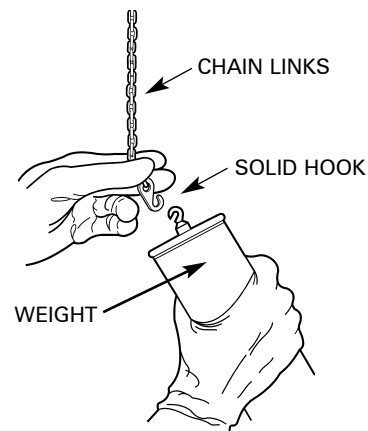

FIGURE 11
**CAUTION: Ensure that each link of each chain is properly positioned on the teeth of the sprocket.** Hang each weight on the solid hook at the end of the chain, never on the chain links. (See figure 11).